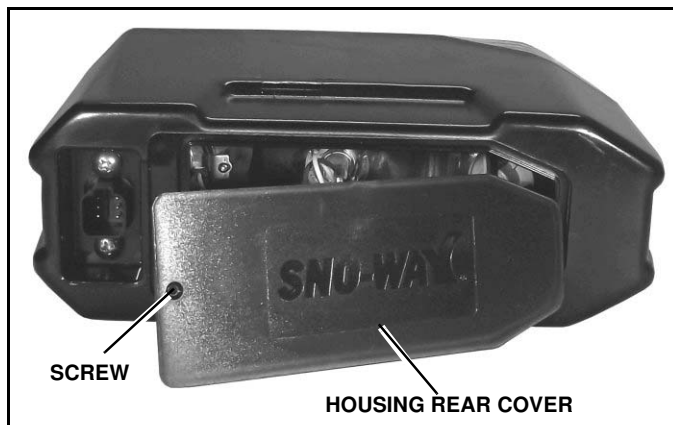

Figure 2-2
1. To replace any of the plow light bulbs, remove the phillips head screw and cover from the rear of the light housing. (See Figure 2-2)